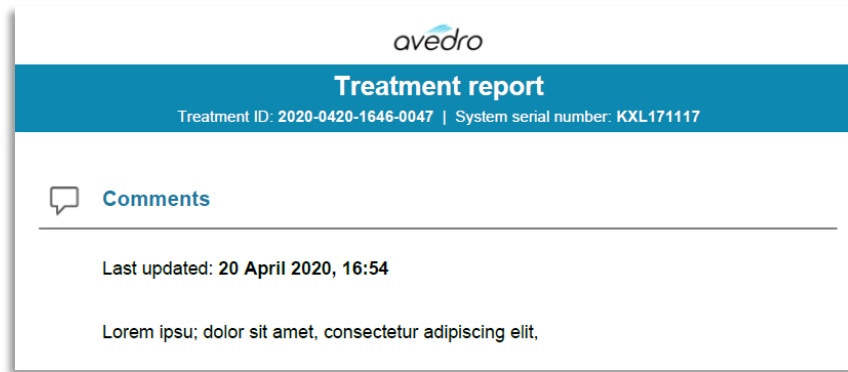

Figure 3-38. Comments Section
- o Keyboard will become available to make comments to the patient's report. Figure 3-38 depicts comments in a Patient Report.